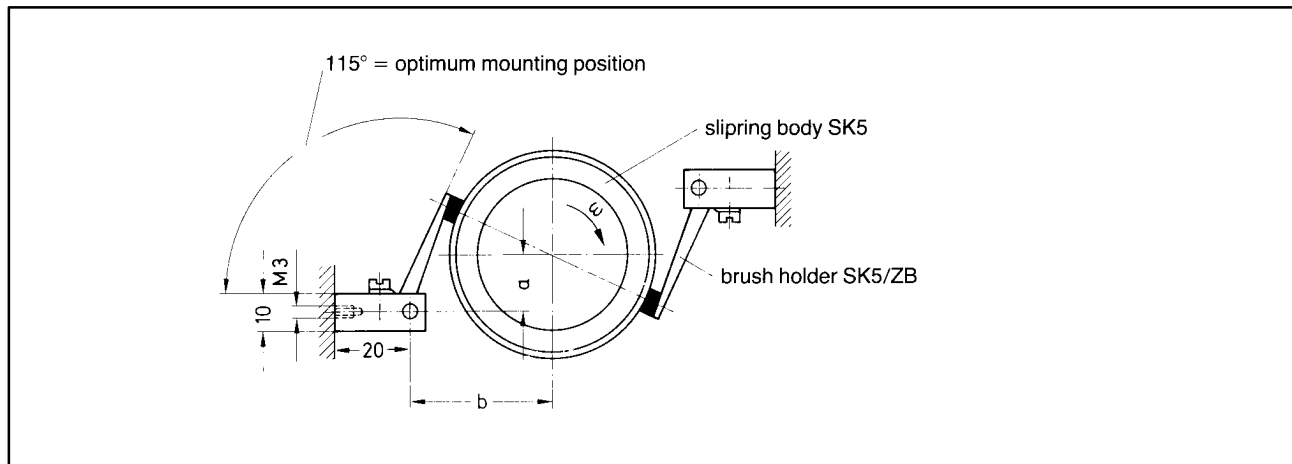

Fig. 10.1: Slipping body SK5 with brush holder SK5/ZB, mounting example
Two brush holders SK5/ZB with five brushes each complete the slipping body to form the assembly. The five brushes are arranged for signal transmission on the holder. They can move about a common bolt and springs will provide the necessary mechanical pressure. Two holes with M3 thread are for the mounting of the brush holder. Thus the fixing can be designed according to the requirements. The optimum arrangement of slipping body and holder is shown in Fig. 10.1.
4. The brush holders shall be arranged at opposite sides of the shaft (see fig. 10.1). This is a precondition for a safe signal transmission. The brush holders shall be mounted in such a way that the brush underneath the black clamping screw is associated with the first slipring next to the cable outlet. The clamp connections marked with colours on the brush holder will then be in the same sequence as cable core colours of the slipring body.